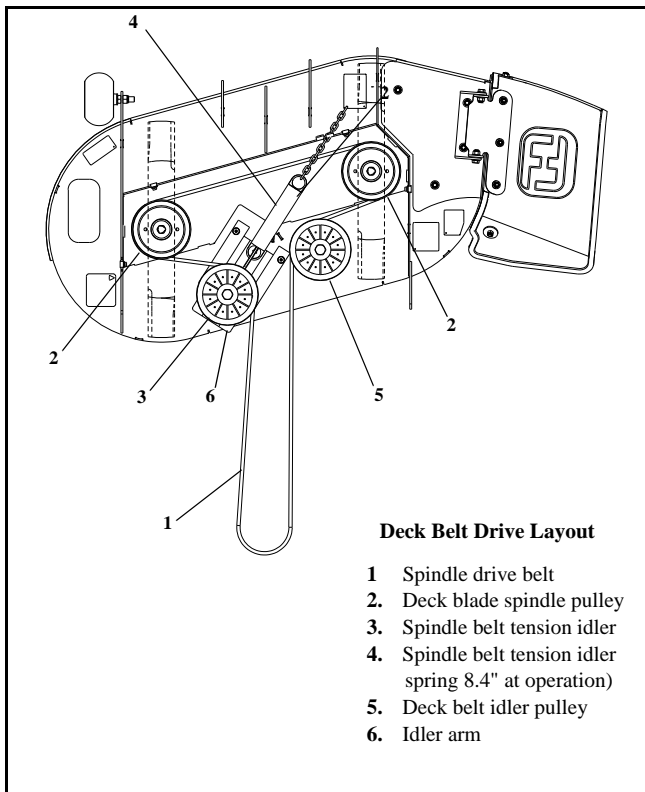
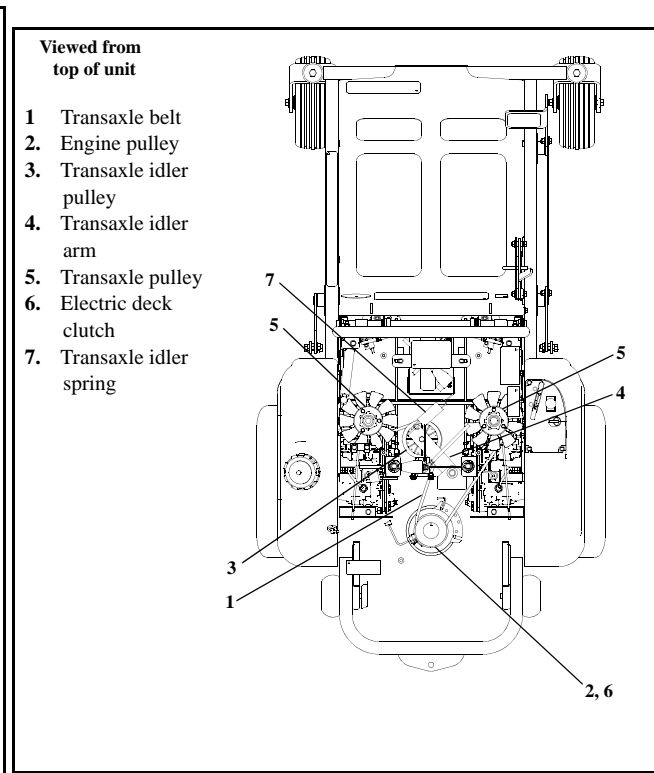

FIG. 25
FIG. 26
FIG. 25 and FIG. 26 show diagrams and descriptions of the unit's belt drive systems.
7. Route the new belt per FIG. 25.
5. Release the tension from the transaxle belt by pulling on the idler pulley (extending spring carefully) and sliding the belt over it. Use caution when releasing the idler pulley as there is still tension on it and it will snap back into position (FIG. 26).